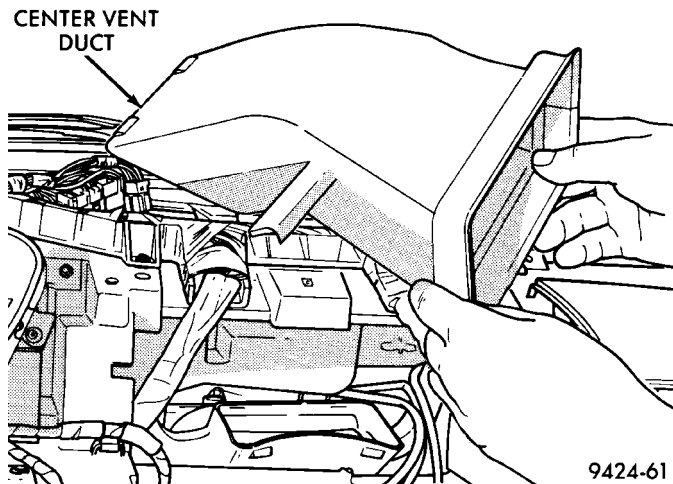

Fig. 39 Instrument Panel Center Vent
- (3) Remove center vent duct (Fig. 39).